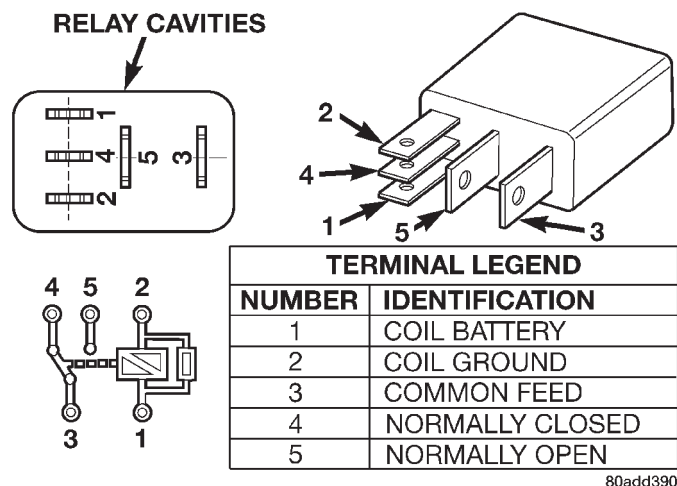

Fig. 12 Type-3 Relay
(15) If equipped with **type-3 relay** (Fig. 12), attach test leads from LCS adapter into PDC relay cavities number 3 and 5. For location of these cavities, refer to numbers stamped to bottom of relay (Fig. 12).